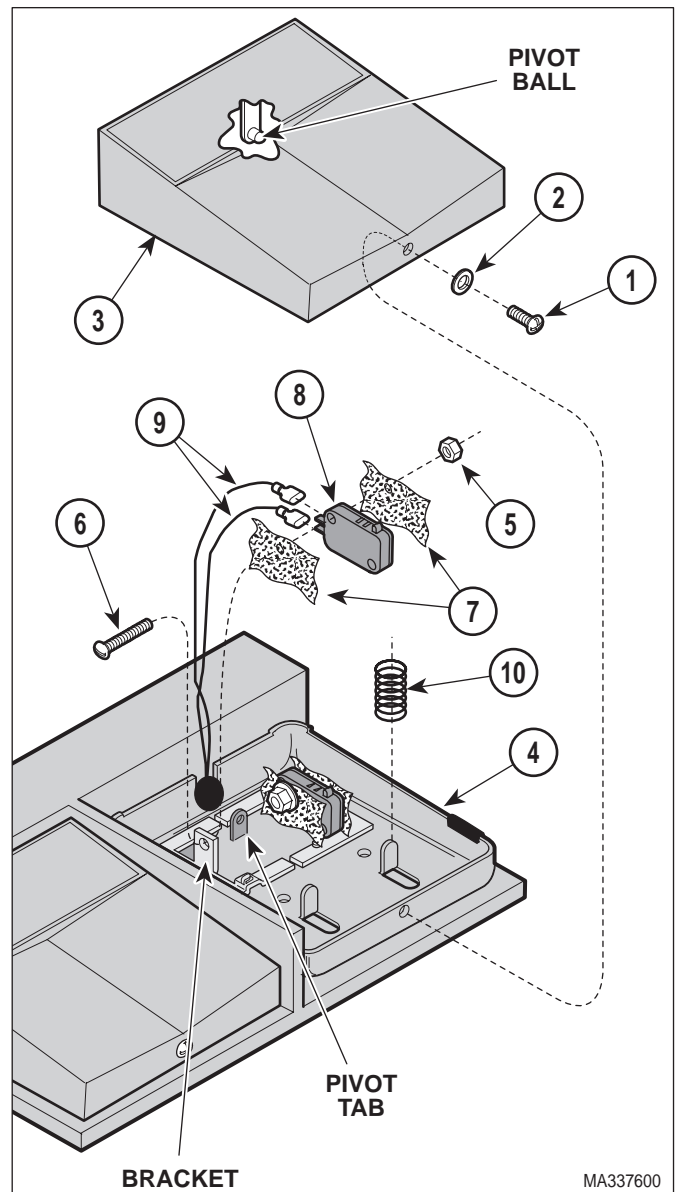

Figure 4-25. Typical Foot Control Switch Removal / Installation
- (1) Unplug the table power cord from the wall outlet.
- (2) Remove screw (1, Figure 4-25), lockwasher (2), and pedal (3) from foot switch bracket (4).
- (3) Remove two locknuts (5), screws (6), two insulators (7), and footswitch (8) from footswitch bracket (4).
- (4) Tag and disconnect two **or** three wires (9) from terminals of footswitch (8). Remove footswitch.